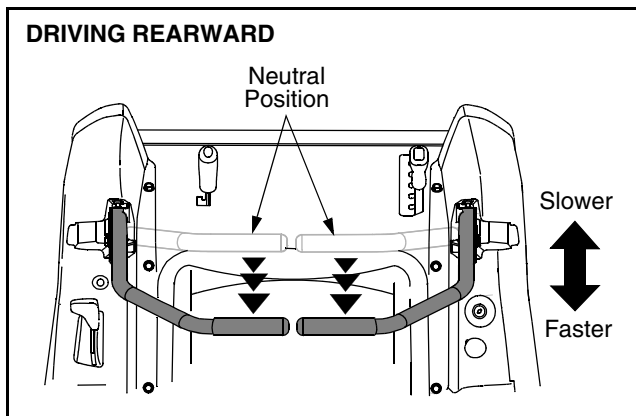

Figure 14
- Slowly and evenly move both drive control levers rearward. The tractor will start to move in the reverse direction. See Figure 14.